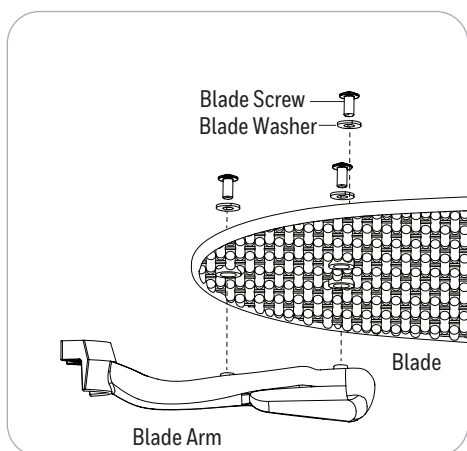

Figure 4.4
4. Partially insert the blade screws along with blade washer through blade and into the blade arm. Tighten each blade screw starting with the one in the middle (Figure 5.4). Repeat this step for the remaining blades and blade arms (Figure 4.4).